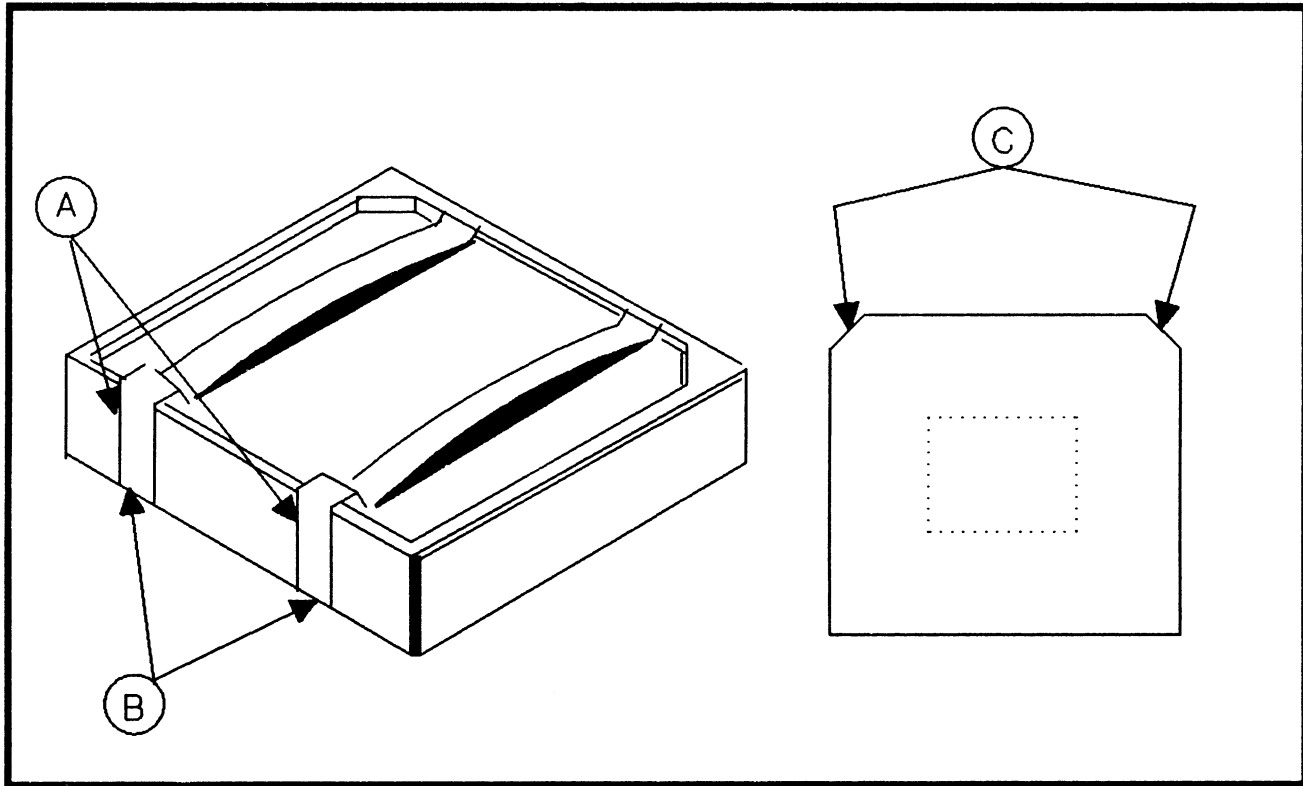

Figure 8-1. SOS Socket with chip and retaining clips.
- b. While pressing down on one of the retaining clips with a thumb, insert the tip of a straight-blade screwdriver or similar tool between the retaining clip and the side of the socket at location A (see figure 8-1).
- c. Twist the screwdriver so the blade forces the clip free of the lip (B) on the side of the socket.
- c. Place the chip in the socket, locating the two cut-off corners (C in figure 8-1) against the blocked-off corners of the socket. The trace side of the IOP must face down, toward the component side of the card, when the chip is placed in the socket.
- e. Use a thumb to press down on the retaining clip while guiding it over the edge of the socket. Continue pressing down on the clip until it snaps over the lip (B in figure 8-1) on the side of the socket.